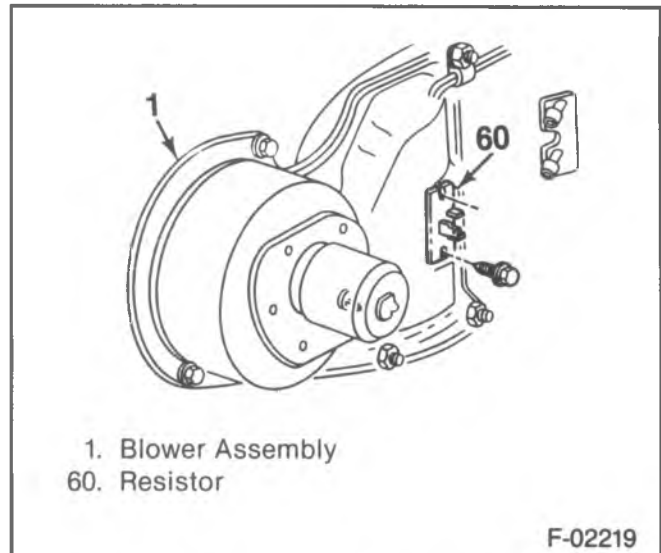

Figure 16—Blower Motor Resistor
2. Connector (4) (figure 16).
4. Resistor (60).